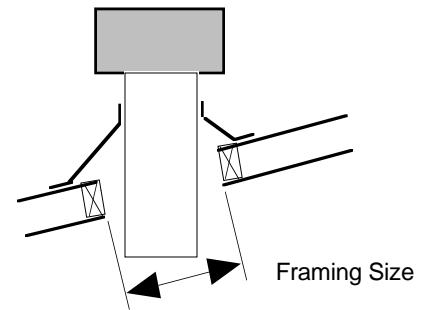

Figure 25
- The table below may be used to determine the appropriate framing size (see Figure 25). When installing into a sloped roof, it is important to determine the size of the framing for clearance purposes. Use the appropriate column for 2 x 4 or 2 x 6 rafters. It is not necessary to frame around the hole opening if the clearance to combustibles can be maintained between two rafters.